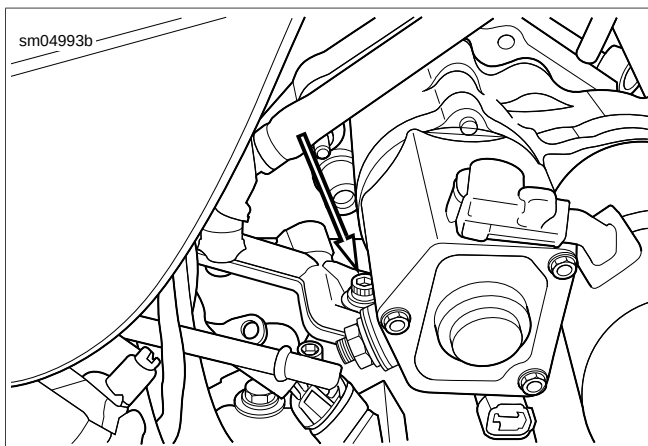

Figure 3-29. Return Oil Manifold Fastener
6. See Figure 3-29. From right side of motorcycle, remove fastener (1) securing oil manifold.
3. See Figure 3-29. Slide oil manifold onto rigid lines and secure with screw (1). Tighten to 84-108 **in-lbs** (9.5-12.2 Nm).